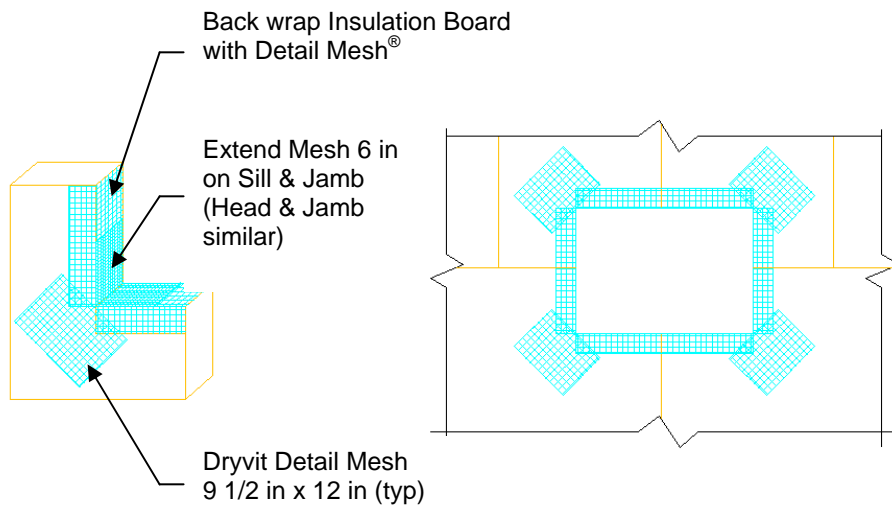

Figure 18
4. Corners of all openings such as windows, doors, mechanical equipment and all penetrations shall be reinforced with Detail Mesh placed diagonally to the opening as illustrated in Figure 18.